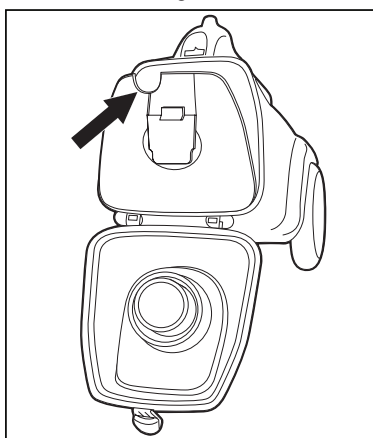

Fig. 12
Step 4: Insert finger into upper left notch then pull out and remove bag. (Fig. 12).